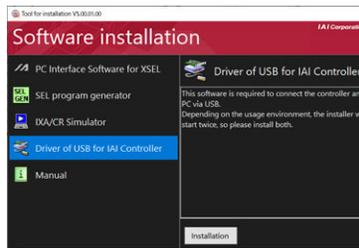

Fig. 1.14 Installed Data Selection Screen
- [2] The installed data selection screen (Fig. 1.14) will be displayed.